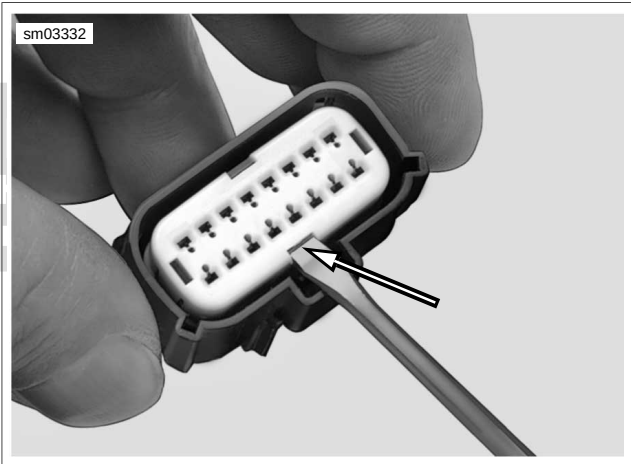

Figure A-25. Secondary Lock Pry Slot (Socket Housing)
- a. **Socket Housing:** See Figure A-25. Use a small screwdriver in the pry slot. The slot next to the external latch provides a pivot point.